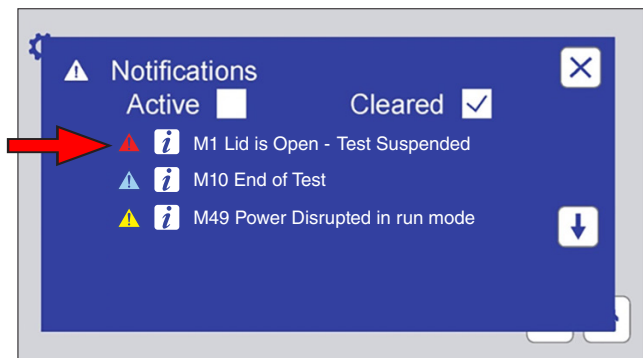

Figure 9.4b: The Notifications Screen lists notification information.
- The type, information icon, identification code (ex. M49), and name are displayed for each notification (Figure 9.4b).